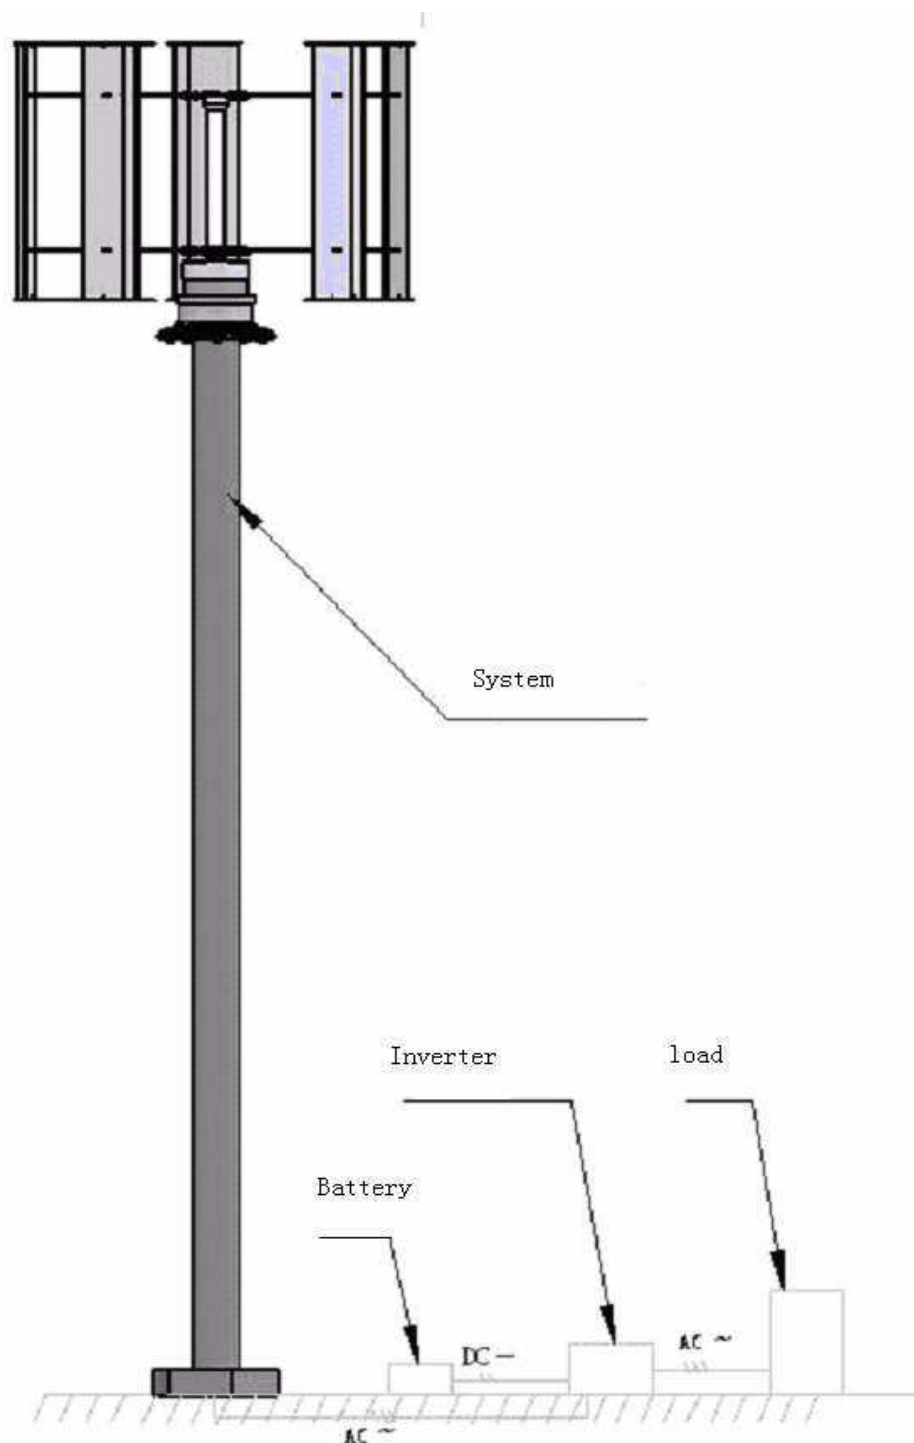

Fig 8
3. Connect all the wires: connect the generator, inverter/controller, and the storage batteries with cables provided as shown in Figure 8.